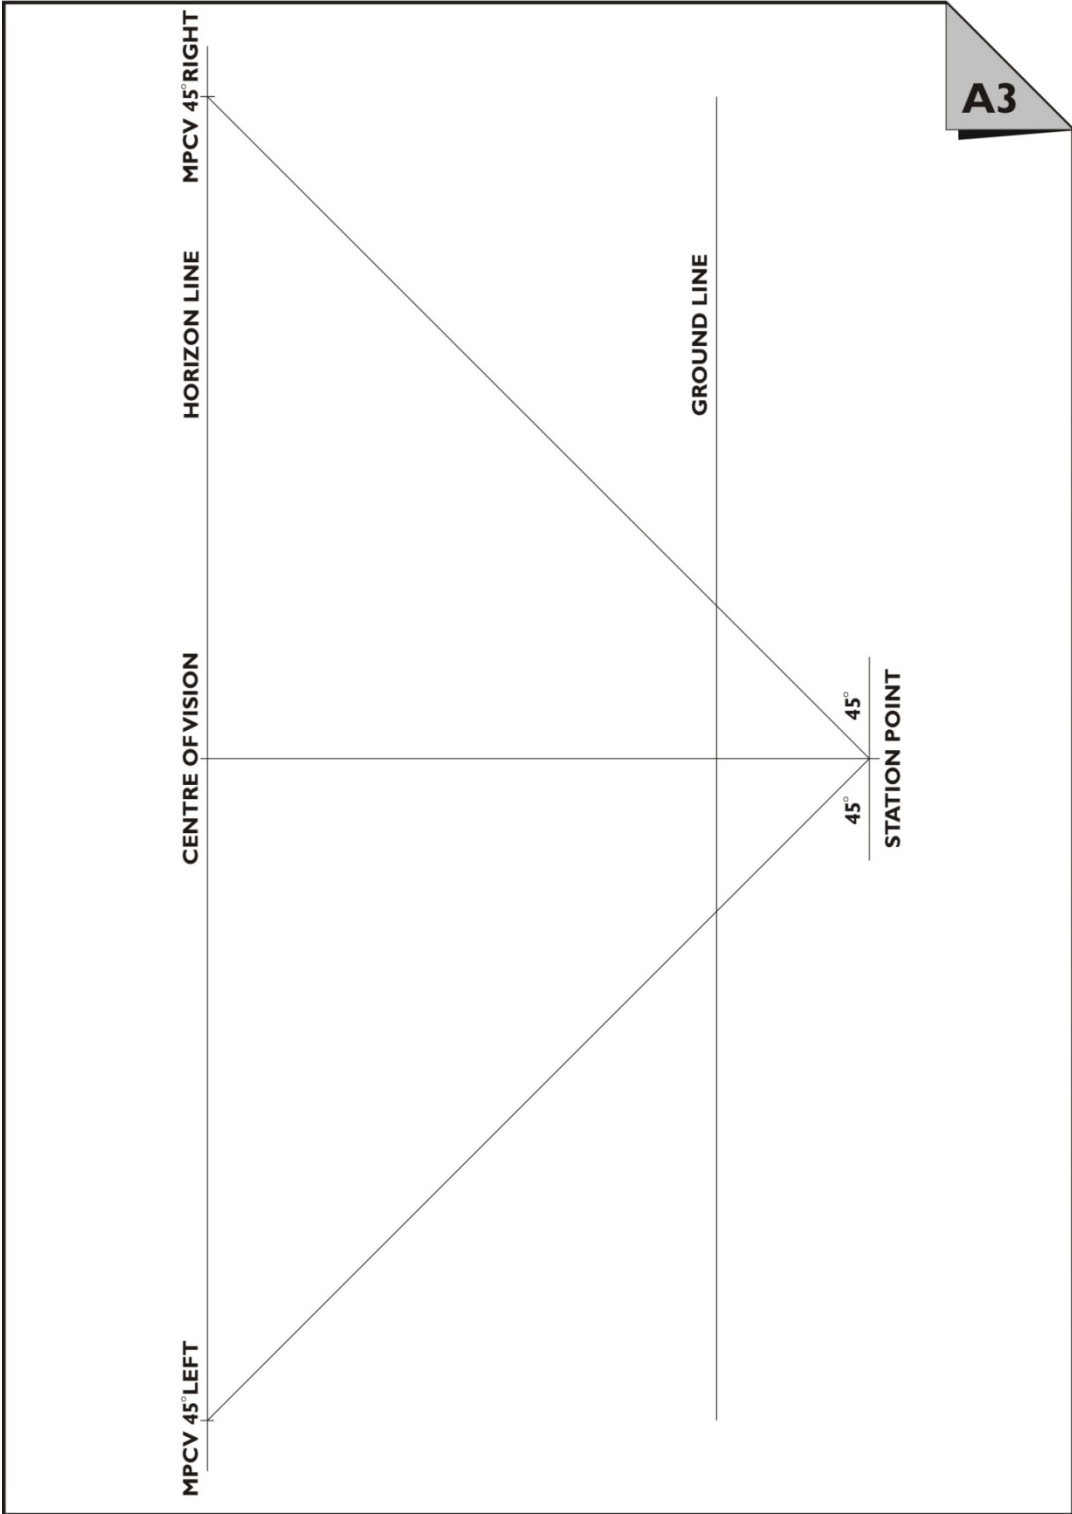

Figure 2.5 One-point perspective measuring-point layout guide
2. Position the station point, the ground line and the horizon line as in the layout guide. Refer to Figure 2.5.
1. Centralise Measuring Point plan over given paper area. Refer to Figure 2.5 of the layout guide.
2. Position the station point, the ground line and the horizon line as in the layout guide Figure 2.5.
1. Centralise Measuring Point plan over paper area. Refer to Figure 2.5 layout guide.
2. Position the station point, the ground line and the horizon line as in Figure 2.5 of the layout guide.